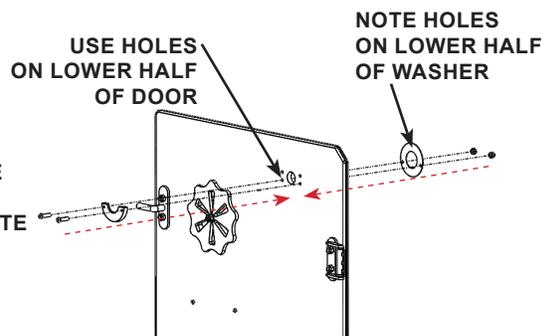

FIGURE 3.21 - Holder Installation
STEP 5: Rotate the humidifier holder orientating the bracket to align with the top hole in the door (lower two screw holes). Install the humidifier holder by reattaching the large washer on the backside of the door, secure with the screws and nuts. See FIGURE 3.21